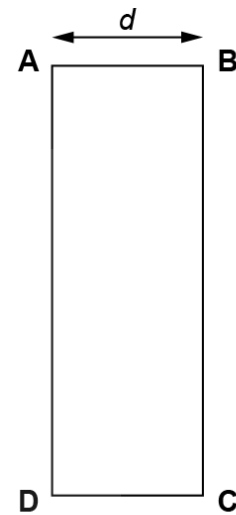

Fig. 1.2
- (ii) On Fig. 1.2, draw the line **AC**.